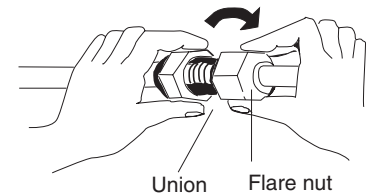

Fig. 1-18
- (3) For proper connection, align the union tube and flare tube straight with each other, then screw on the flare nut lightly at first to obtain a smooth match. (Fig. 1-18)